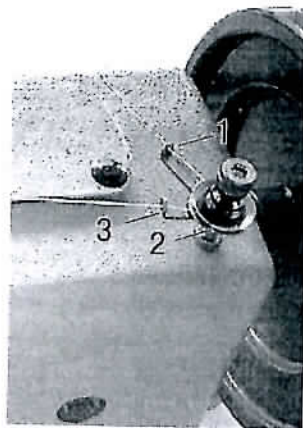

Fig.9
**7.WINDING THE LOWER THREAD ON THE BOBBIN (Figs. 9 & 10)**